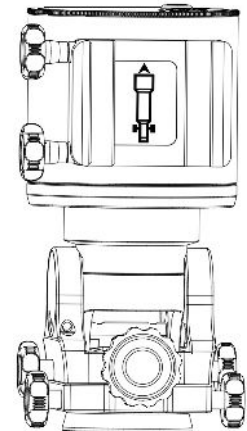

Fig. 3
2. For use in Alt-Azimuth (**AZ**) mode, rotate the Altitude adjustment knob until it stops turning and lock Latitude locking knobs. leave the mount in upright position as shown in Fig.3